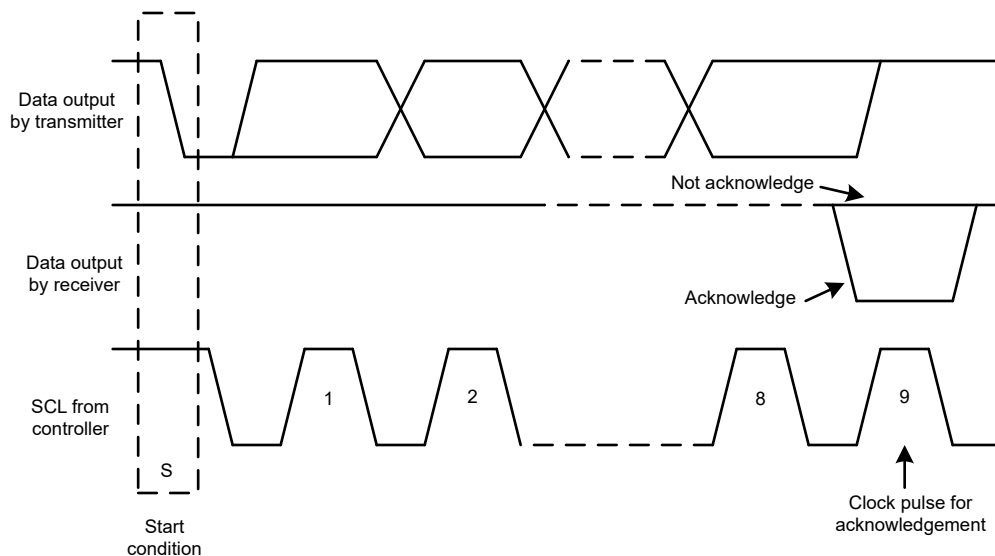
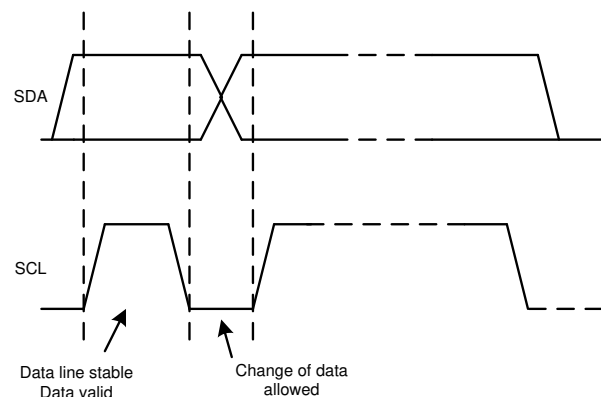

Figure 7-14. Acknowledge and Not Acknowledge on the I²C Bus
Figure 7-16. Bit Transfer on the I²C Bus
Other than specific timing signals, the I²C interface works with serial bytes. At the end of each byte, a ninth clock cycle generates and detects an acknowledge signal. An acknowledge is when the SDA line is pulled low during the high period of the ninth clock cycle. A not-acknowledge is when the SDA line is left high during the high period of the ninth clock cycle, as shown in Figure 7-14.
2. The controller then generates the SCL pulses, and transmits the 7-bit address and the read/write direction bit (R/\bar{W}) on the SDA line. During all transmissions, the controller makes sure that data are valid. A valid data condition requires the SDA line to be stable during the entire high period of the clock pulse, as shown in Figure 7-16. All devices recognize the address sent by the controller and compare the address to the respective internal fixed address. Only the target device with a matching address generates an acknowledge by pulling the SDA line low during the entire high period of the 9th SCL cycle, as shown in Figure 7-14. When the controller detects this acknowledge, the communication link with a target has been established.